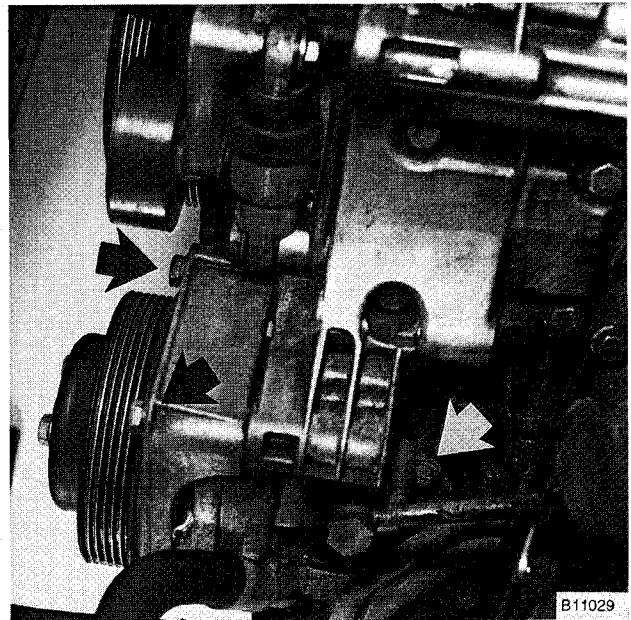

Fig. 14. Power steering pump mounting bolts (arrows). M52 engine shown.
20. Remove power steering pump from its mounting bracket. See Fig. 14. Use stiff wire to hang pump from body.